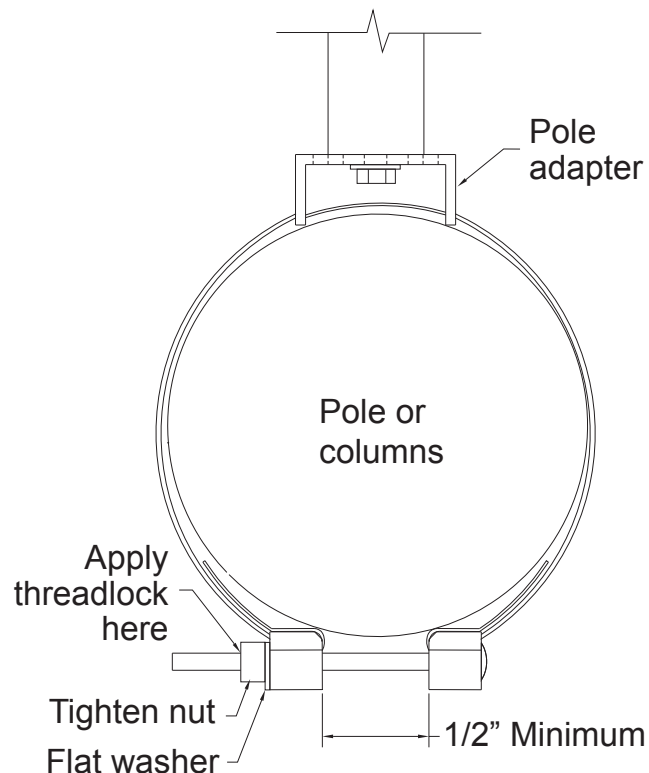

Figure5
**Step 7:** Tighten the Carriage Bolt Assembly until all slack has been removed from the fully loaded assembly. retainer blocks must have a minimum of 1/2" gap after fully tightened. Do not overtighten (Figure 5).